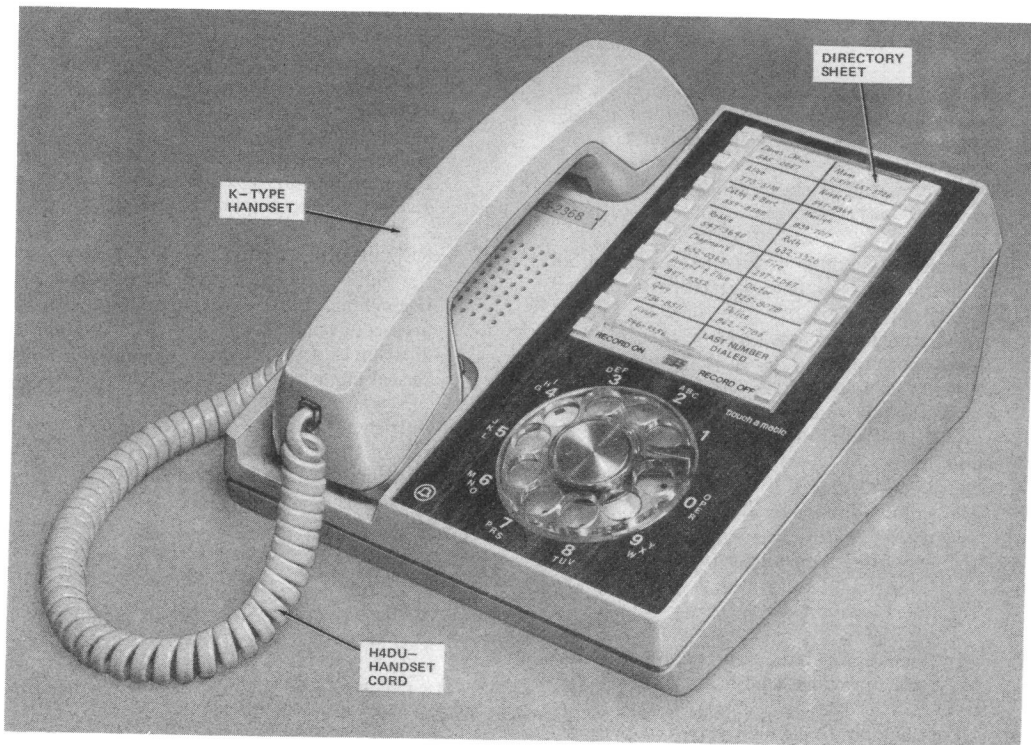

Fig. 1—960A01M (MD) Telephone Set
1.01 This section contains information on the 960A01M manufacture discontinued (MD) telephone set. This set is shipped from the factory as a desk set (Fig. 1) and can easily be converted to a wall set with no additional parts required.